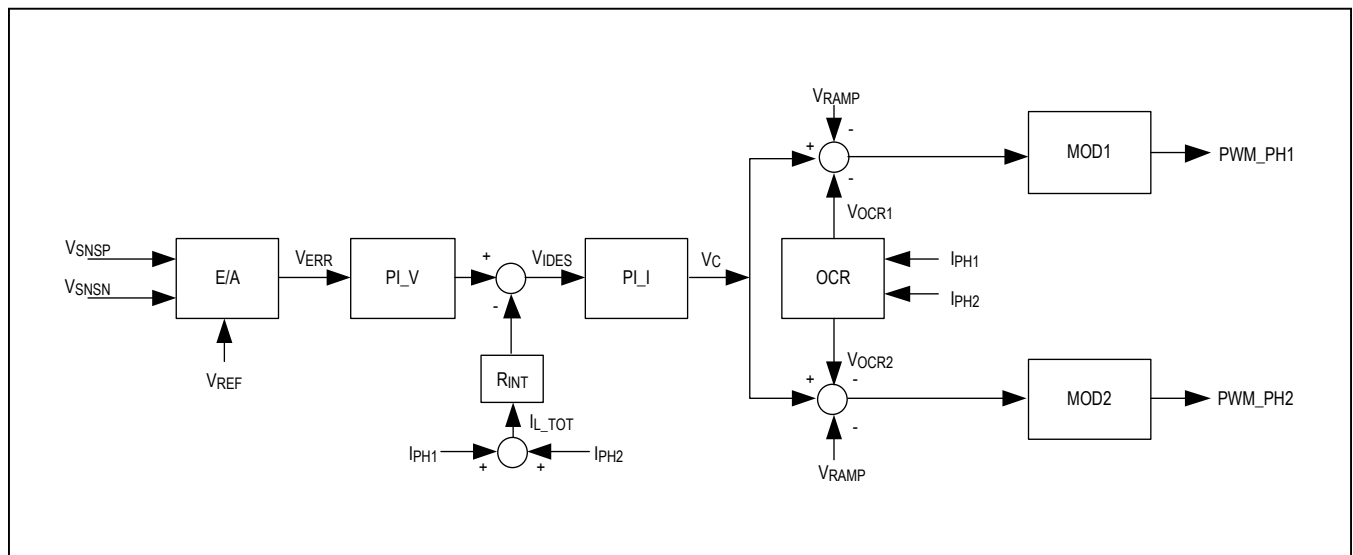

Figure 1. Simplified Control Architecture
The MAX20796 control loop is based on the multiphase peak current-mode control architecture. The loop contains multiple amplifier stages and modulator circuits that switch each phase based on its phase current. Figure 1 shows the internal amplifier stages of the controller and how phase-current information is used to generate the phase-control signals by using a two-phase system as an example. The first error amplifier stage is a differential amplifier, which provides an output equal to 2.2 times the error between the reference voltage and the differential remote-sense voltage. Its output voltage ( $V_{ERR}$ ) is used as the input of the first proportional integral (PI) block used for voltage loop. Then the output voltage of the PI\_V block minus the total sensed phase currents ( $I_{L\_TOT} \times R_{INT}$ ) are generated as the current-loop error amplifier input ( $V_{IDES}$ ). After  $V_{IDES}$  is handled by another PI amplifier, its output ( $V_C$ ) along with the slope compensation ramp ( $V_{RAMP}$ ) and the current balancing info ( $V_{OCR}$ ), are used for the PWM modulation (MOD) for each phase.